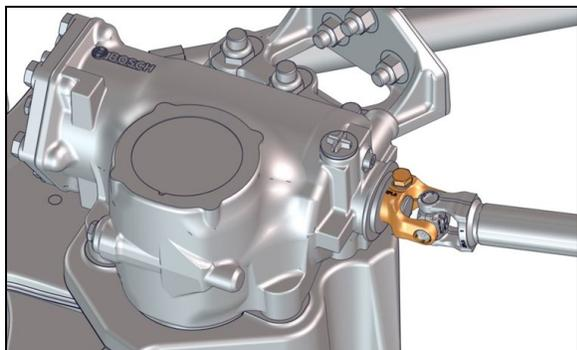

FIGURE 6
7. Disconnect the steering shaft yoke from the steering gear input shaft (Figure 6). Voir le paragraphe **9.4 LEVIER DE COMMANDE DE DIRECTION (T-ARM)**.